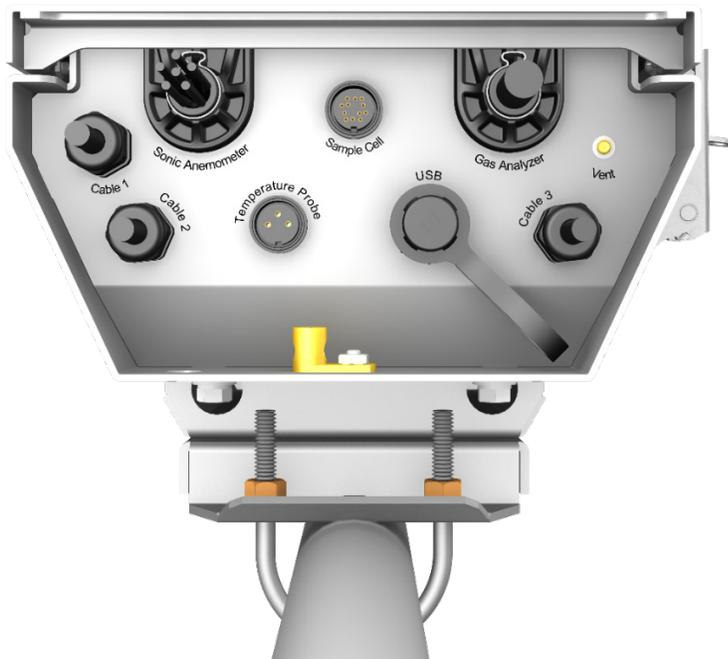

FIGURE 6-12. Bottom of EC100 enclosure
FIGURE 6-11 and FIGURE 6-12 below show the EC100 electronics panel and the bottom of the EC100 enclosure, respectively. Refer to these figures during wiring and connecting.
1. Connect the EC155 gas analyzer head. Begin by removing the black rubber cable entry plug on the bottom right of the EC100 enclosure. (This plug can be stored in the mesh pocket of the enclosure). Now insert the cable entry plug that is attached to the large cable of the EC155 gas analyzer head into the vacant slot. Push the connector at the end of the cable onto its mating connector (labeled **Gas Analyzer**) and tighten the thumbscrews (see FIGURE 6-12). The EC155 gas analyzer cable is approximately 3 m (9.8 ft) in length.
4. Ground the EC100 by attaching a thick wire (for example, 12 AWG) to the grounding lug found on the bottom of the EC100 enclosure (see FIGURE 6-12). The other end of the wire should be connected to earth (chassis) ground (such as a grounding rod). For more details on grounding, see the grounding section of the CR3000 datalogger manual.